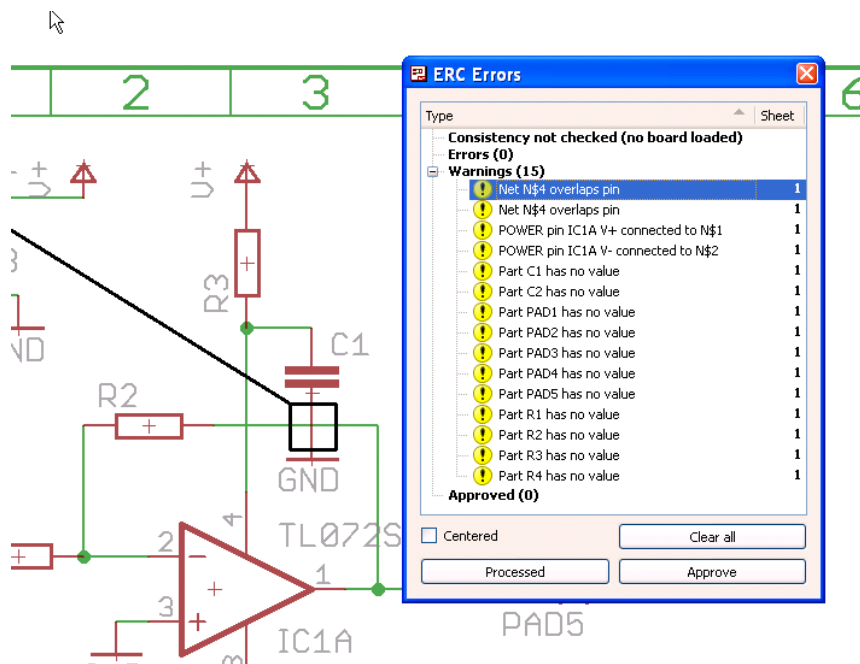

Figure 3
error on the schematic. You can see in Figure 3 that the first error, (highlighted) is where a horizontal net (N\$4) crosses the end of the pins of C1 and GND components.
Another common error is the opposite, a net runs across the endpoint of a component without joining, as in Figure 4a, (the first two errors from Figure 3 are of this form).
**Figure 3 illustrates some POWER errors, and also some “no value” errors. In this case we are laying out the PCB before precise R and C values have been calculated, so these errors will remain uncorrected. However the no value PADS should be corrected using *Edit->Value*.**